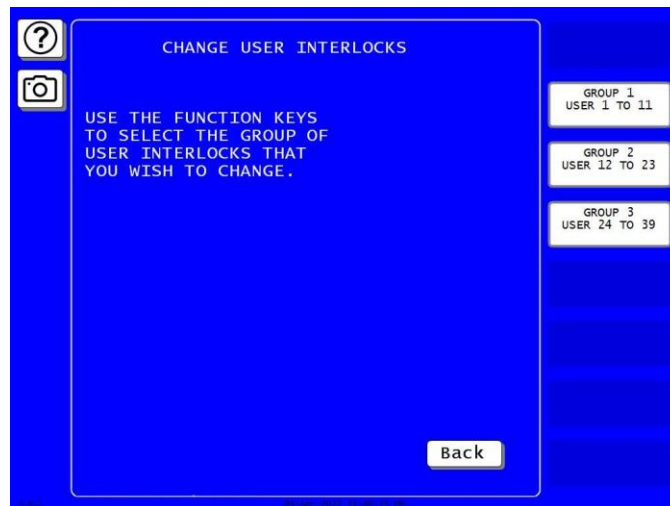

Figure 3-3. Change User Interlocks Screen
2. On the WPC Initialization Menu, USER INTERLOCKS. The Change User Interlocks screen displays, Figure 3-3.